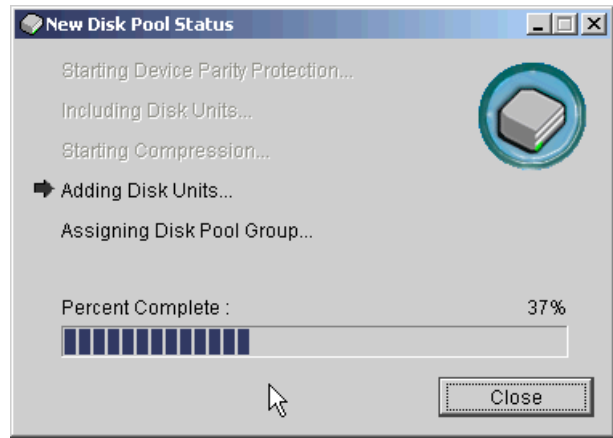

Figure B-18 New Disk Pool Status
13. Take note of and respond to any message dialogs which appear. After taking action on any messages, the New Disk Pool Status panel shown in Figure B-18 on page 384 will appear showing progress. This step may take some time, depending on the number and size of the logical units being added.